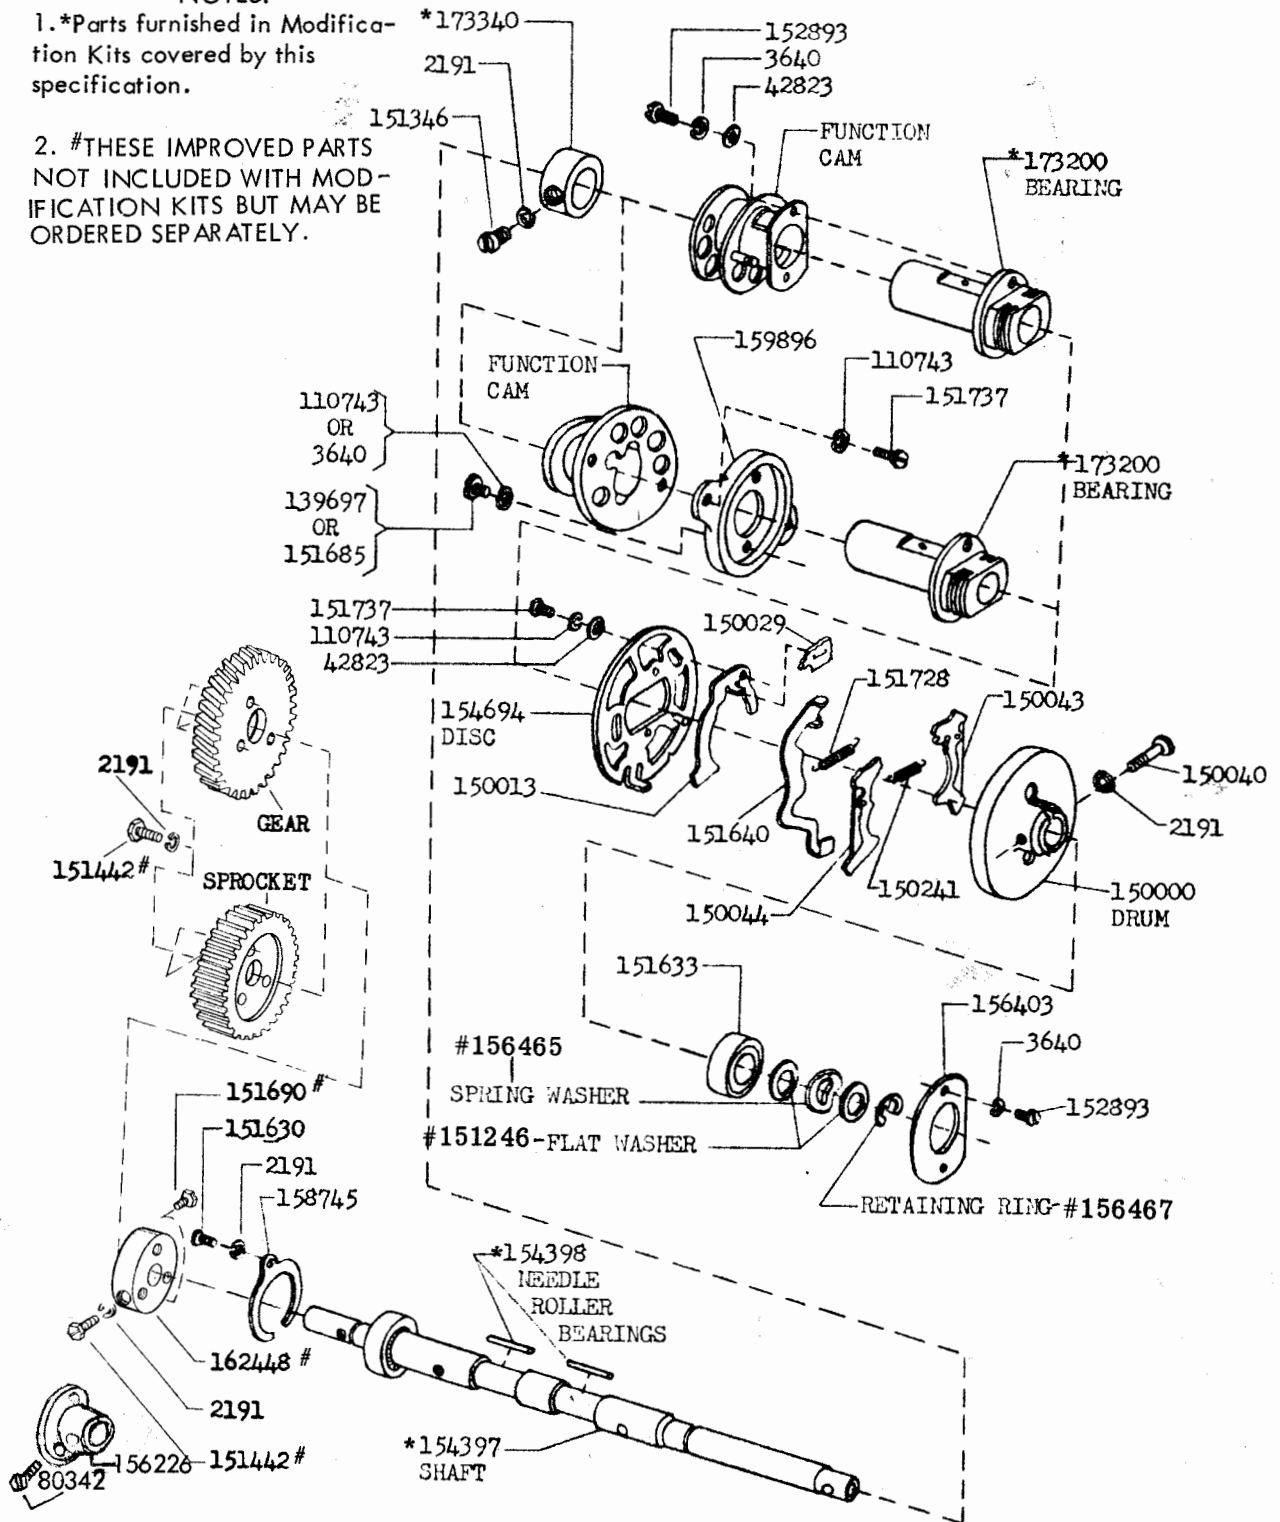

Figure 1
d. For part numbers referred to in the following installation instructions, see appropriate parts bulletins and Figures 1 and 2. Unless it is definitely stated to the contrary, retain all parts that are removed in disassembly.
2. INSTALLATION (Figures 1 and 2)
(1) Units equipped with 156247 or 162341 Bearing and 162340 Bearing Sleeve (Figure 1):
(2) Units equipped with 158179 or 162364 Bearing and 162340 Bearing Sleeve (Figure 1):
(1) Units equipped with the 156247 or 162341 Bearing and 162340 Bearing Sleeve (Figure 1):